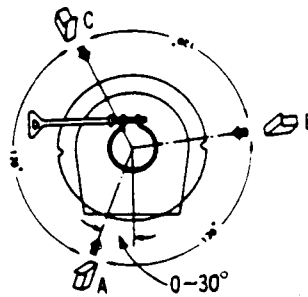

Figure 11
7. Secure the deflection yoke by reinserting the wedges. (See figure 11.)
1. Wedge A shown in figure 11 should be fixed within a range of $0^\circ \sim 30^\circ$ to the left of the vertical line as shown.